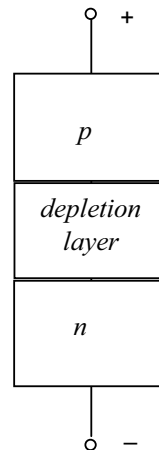

Fig. 1.5
**Biasing.** Fig. 1.5 shows a dc source (*battery*) across a *pn* junction. The negative source terminal is connected to the *n*-type material, and the positive terminal is connected to the *p*-type material. Applying an external voltage to overcome the barrier potential is called the *forward bias*. If the applied voltage is greater than the barrier potential, the current flows easily across the junction. After leaving the negative source terminal, an electron enters the lower end of the crystal. It travels through the *n* region as a free electron. At the junction, it recombines with a hole, becomes a valence electron, and travels through the *p* region. After leaving the upper end of the crystal, it flows into the positive source terminal.